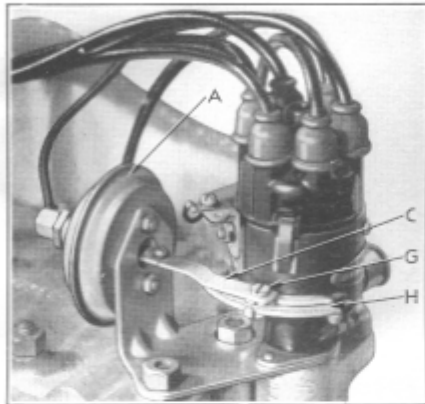
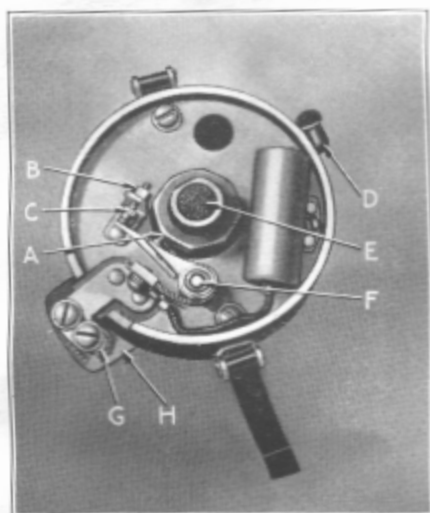
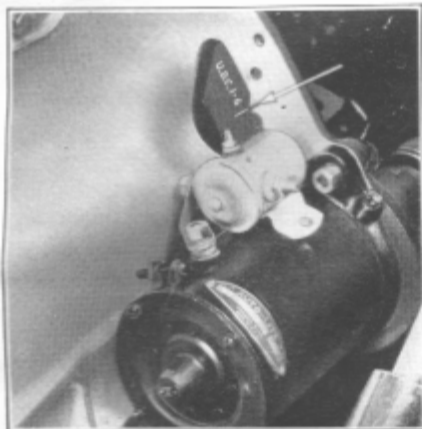

Figure 18
Figure 20
Figure 21
The distributor, Figure 18, on all 6-cylinder models is mounted at the top of the cylinder block at the rear end where it is readily accessible for servicing and protected from road splash.
The 8-cylinder model distributor is illustrated in Figure 20. This unit likewise incorporates the automatic governor advance feature. A graduated advance plate is used to permit manual adjustment to compensate for variation in octane rating of fuels to prevent detonation. See "Fuel Compensation," page 37.
Every 2,000 miles on 8-cylinder distributors apply a few drops of light engine oil in oil cup (D), Figure 20, a few drops of light engine oil on the wick (E) in the distributor drive shaft under the rotor, a drop of oil on the contact arm stud (F) and a light coating of high temperature grease on the cam lobe (A). *Avoid over-oiling.*
To check ignition timing, remove the spark plug from No. 1 (front) cylinder. Place finger over the spark plug hole and turn over the engine by pressing the small button on the front end of the starter solenoid in quick successive movements. When air pressure against the finger indicates that the piston is coming up on the compression stroke, continue cranking slowly until the mark U.D.C. 1-6/ or U.D.C. 1-8/ on the front face of the flywheel is in line with the pointer on the rear engine support plate as shown in Figure 21.
Loosen distributor advance diaphragm arm screw (G), Figure 18,
and rotate distributor housing counterclockwise to the limit of the slot in the quadrant (H). Remove the central cable from the distributor cap and place the bare end $\frac{1}{8}$ " from the cylinder head. With the ignition turned on and the U.D.C. 1-6/ mark on the fly-wheel in line with the pointer on the inspection hole, Figure 21, rotate the distributor body clockwise slowly just until a spark jumps from the high tension wire to the cylinder head. Tighten screw (G), replace central cable in distributor cap and clamp cap on distributor.
Loosen distributor clamp screw (G), Figure 20, and rotate the distributor housing clockwise to the limit of the slot in the clamping plate (H). Remove the central cable from the distributor cap and place the bare end $\frac{1}{8}$ " from the intake manifold. With the ignition on and the U.D.C. 1-8/ mark in line with the pointer on the inspection hole, Figure 21, rotate the distributor body counterclockwise slowly just until a spark jumps from the high tension wire to the manifold. Tighten clamp screw (G), replace central cable in distributor cap and clamp cap on distributor.
If no ping is heard, loosen the advance diaphragm arm screw (G), Figure 18, on 6-cylinder cars and rotate the distributor body in a clockwise direction a graduation mark at a time until the ping is heard. On 8-cylinder models loosen clamp screw (G), Figure 20, and rotate distributor body in a counterclockwise direction until the ping is heard.